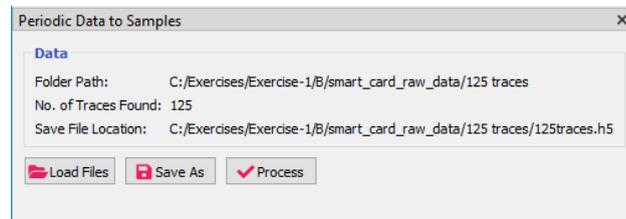

Figure 11: Periodic data to samples in data conversion
- (i) Click *'Load Files'* to load a trace file in CSV format as shown in Figure 11.